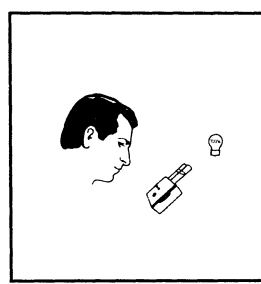

Figure 2b
7. Hold the comparator with the tube tops pointing to a window or light source as in Figure 2b. View through the openings in the front of the comparator. When viewing, use care to not spill samples from unstopped tubes.